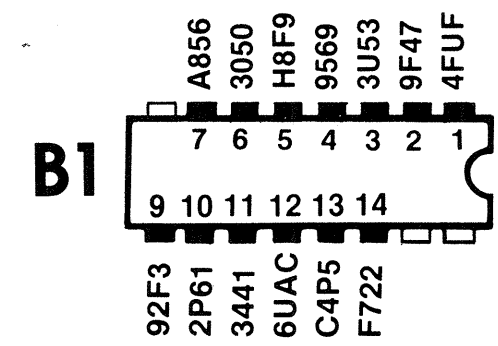

Figure 2A
6. Probe for signatures as shown in Figure 2A to the left. If all signatures are correct, continue with E. Signature Analysis Test #2B Procedure. If a signature is incorrect, refer to G. Isolating a Failing Circuit.